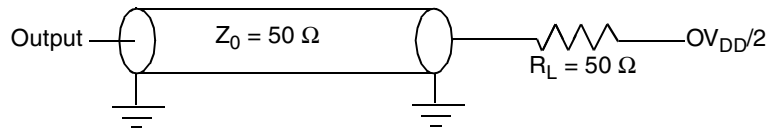

Figure 31. AC Test Load for the JTAG Interface
1. All outputs are measured from the midpoint voltage of the falling/rising edge of t_{TCLK} to the midpoint of the signal in question. The output timings are measured at the pins. All output timings assume a purely resistive 50-Ω load (see Figure 31). Time-of-flight delays must be added for trace lengths, vias, and connectors in the system.
2. The symbols used for timing specifications herein follow the pattern of $t_{(first\ two\ letters\ of\ functional\ block)(signal)(state)(reference)(state)}$ for inputs and $t_{(first\ two\ letters\ of\ functional\ block)(reference)(state)(signal)(state)}$ for outputs. For example, t_{JTDVKH} symbolizes JTAG device timing (JT) with respect to the time data input signals (D) reaching the valid state (V) relative to the t_{JTG} clock reference (K) going to the high (H) state or setup time. Also, t_{JTDXKH} symbolizes JTAG timing (JT) with respect to the time data input signals (D) went invalid (X) relative to the t_{JTG} clock reference (K) going to the high (H) state. Note that, in general, the clock reference symbol representation is based on three letters representing the clock of a particular functional. For rise and fall times, the latter convention is used with the appropriate letter: R (rise) or F (fall).
Figure 31 provides the AC test load for TDO and the boundary-scan outputs of the MPC8555E.